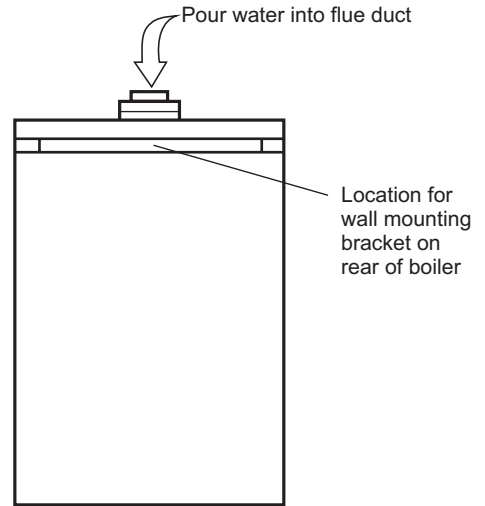

Fig. 12 - rear of boiler
- Connect the 22 mm condensate trap drain pipe to the condensate discharge pipe using the clip supplied. Ensure that the condensate discharge pipe is as required in Section 3.10. Pour at least 0.5 litre of water into the flue duct, as shown in Fig. 12, and check the condensate discharge pipe for soundness.